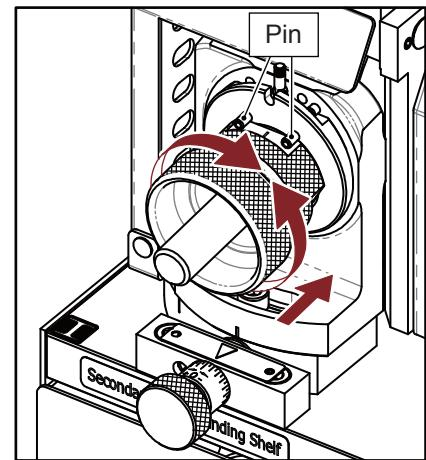
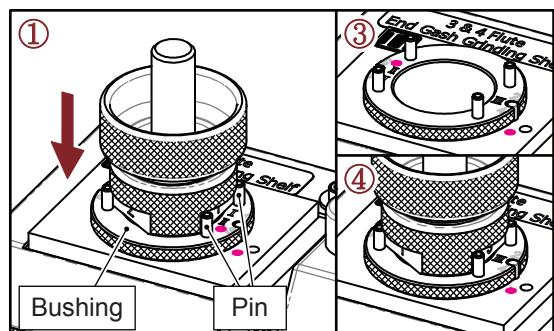

Fig. 10-1
Fig. 10-2
#### 1. 3 Flute Secondary Relief Grinding (I) (Fig. 10-1)
- ① Insert the Chuck set into Shelf (I), align Slot No.1 of the clamping nut with the two pins on the shelf, gently push the Chuck set and turn it clockwise and counterclockwise until the grinding noise stops.
- ② Take the Chuck set out, turn it to grind the Slot No.2 and Slot No.3 in the same way.
#### 2. 3 Flute End Gash Grinding (II) (Fig. 10-2)
- ① Insert the Chuck set into the bushing on Shelf (II), align Slot No.1 with the two pins where marked as No.(I·II), gently push the Chuck set until the grinding noise stops.
- ② Take the Chuck set out and turn it to grind the Slot No.2 in the same way.
- ③ Take the Chuck set out and turn the bushing to No.(III), align No.(III) with the pin on the shelf, then insert it to the end.
- ④ Insert the Chuck set into the bushing, align Slot No.3 with the two pins where marked as No.(III), gently push the Chuck set until the grinding noise stops.